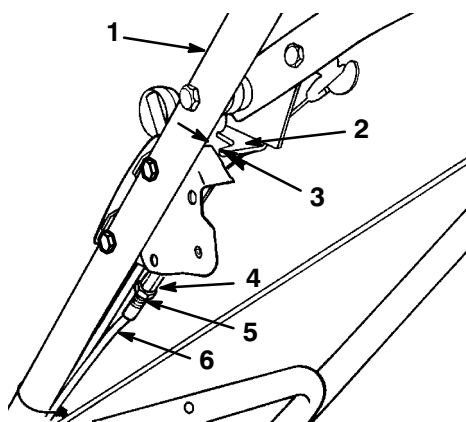

Figure 21
4. Loosen the jam nut on the brake cable (Fig. 21).